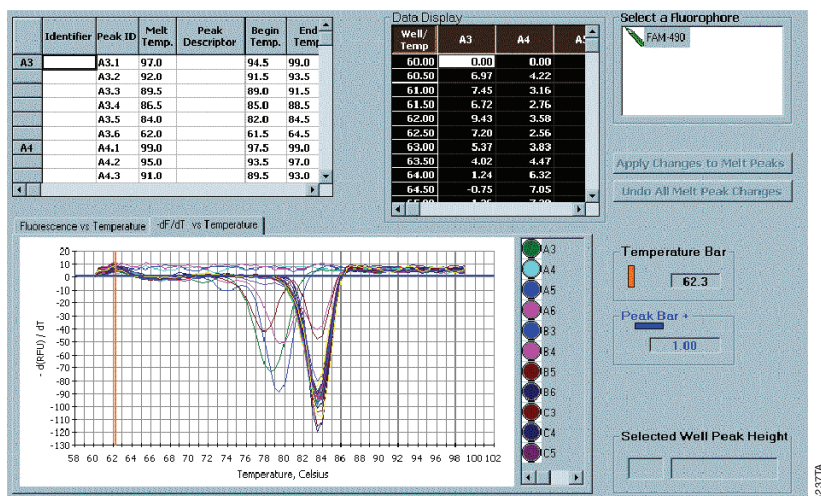

Figure 21. The “Melt Curve” tab with data displayed and all data selected.
21. To export the melt data, go to the “Melt Curve” tab of the “Data Analysis” module in the iCycler iQ™ software (Figure 21).